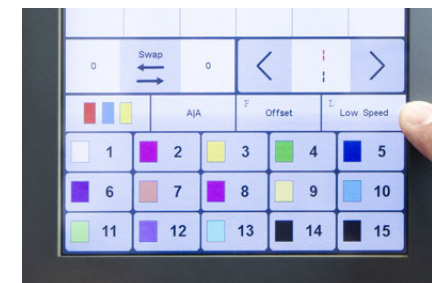

Figure 88
3. Select the Low Speed key. **See Figure 88.**